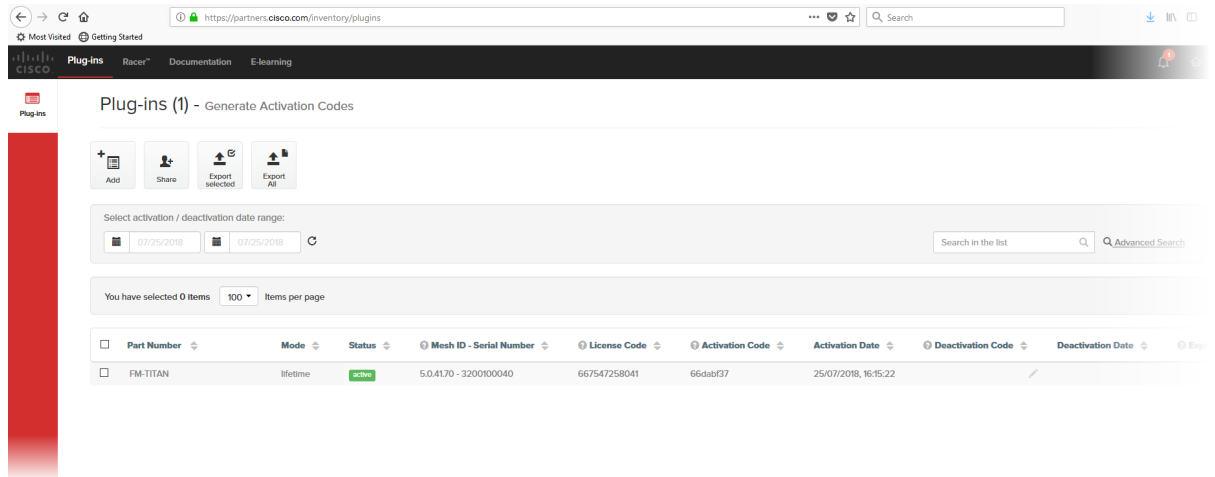

Figure 63. Partner Portal Plug-ins page (License code deactivation)
- The Plug-ins web page will be shown (Figure 63 (page 119)).